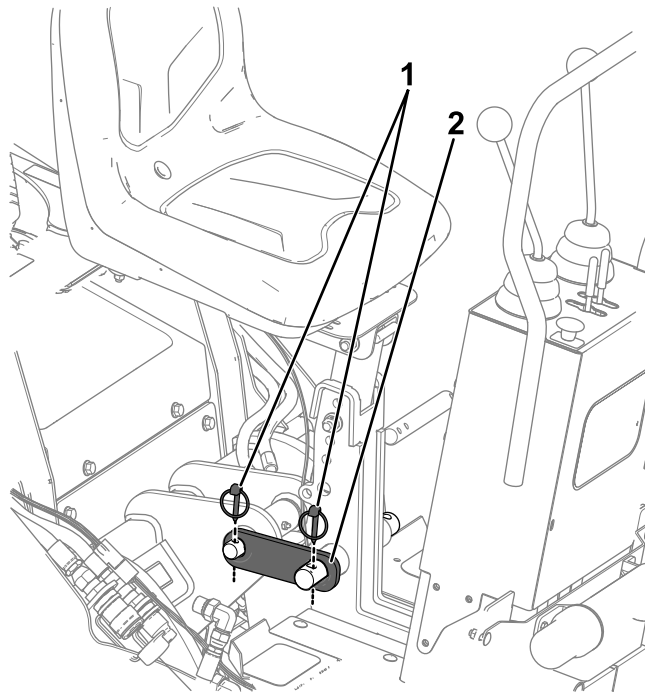

Figure 4
3. Install a tie-down link as shown in Figure 4. Secure the tie-down link with 2 pin locks.